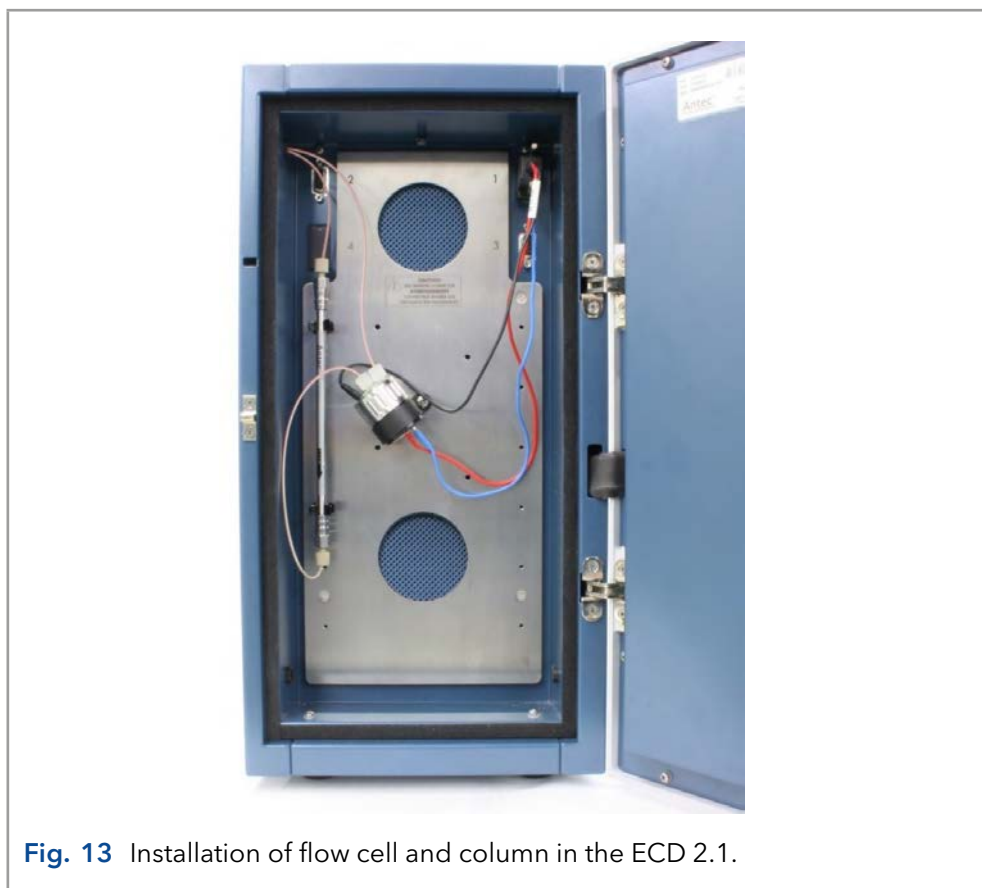

Fig. 13 Installation of flow cell and column in the ECD 2.1.
1. The installation of the flow cell and column is shown in Fig. 13.